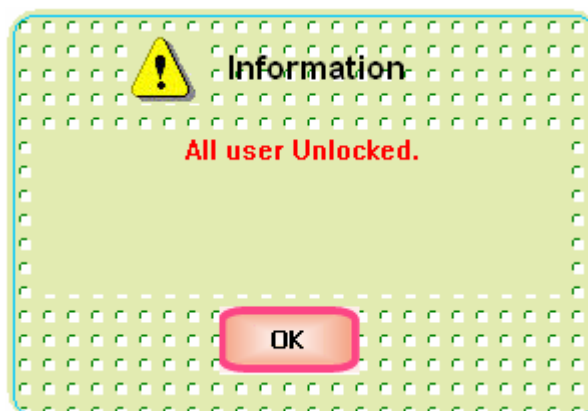

Figure 51 : All users unlocked
2. System unlocks all locked users and shows a notification message (Figure 51).